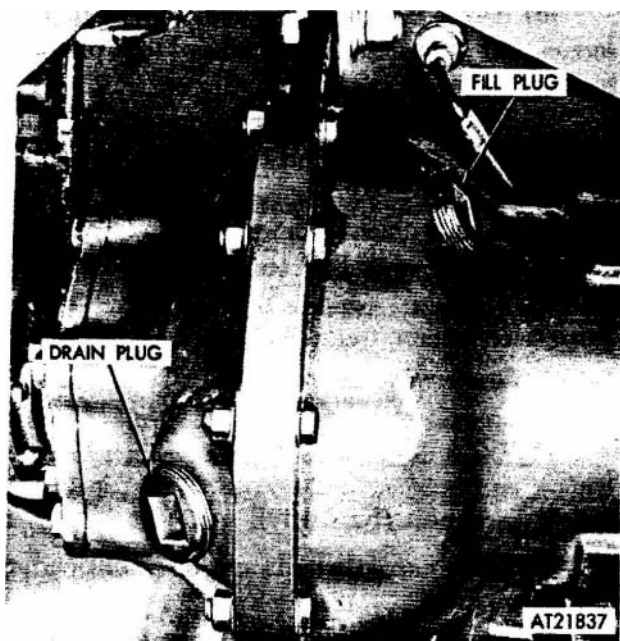

Figure 2-184. Front differential fill and drain plugs.
(1) Place transfer case in six-wheel drive position, engaging front differential sliding clutch.
(2) Using a suitable jack, raise front end of tractor. Block front of tractor securely and remove jack.
(3) Place suitable containers beneath differential and tractor hull bottom drain plug.
(4) Remove differential fill and drain plug (fig 2-184) and drain lubricant.